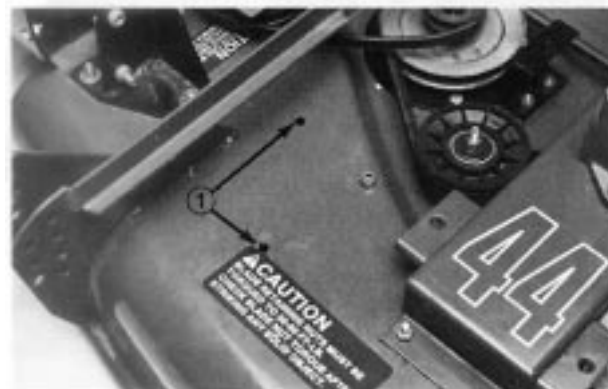

Figure 13
4. With idler assembly pushed into belt, mark slot location on deck. Drill a 11/32" (9 mm) diameter hole near pulley end of each slot. File holes square to accommodate carriage bolts (Fig. 13).